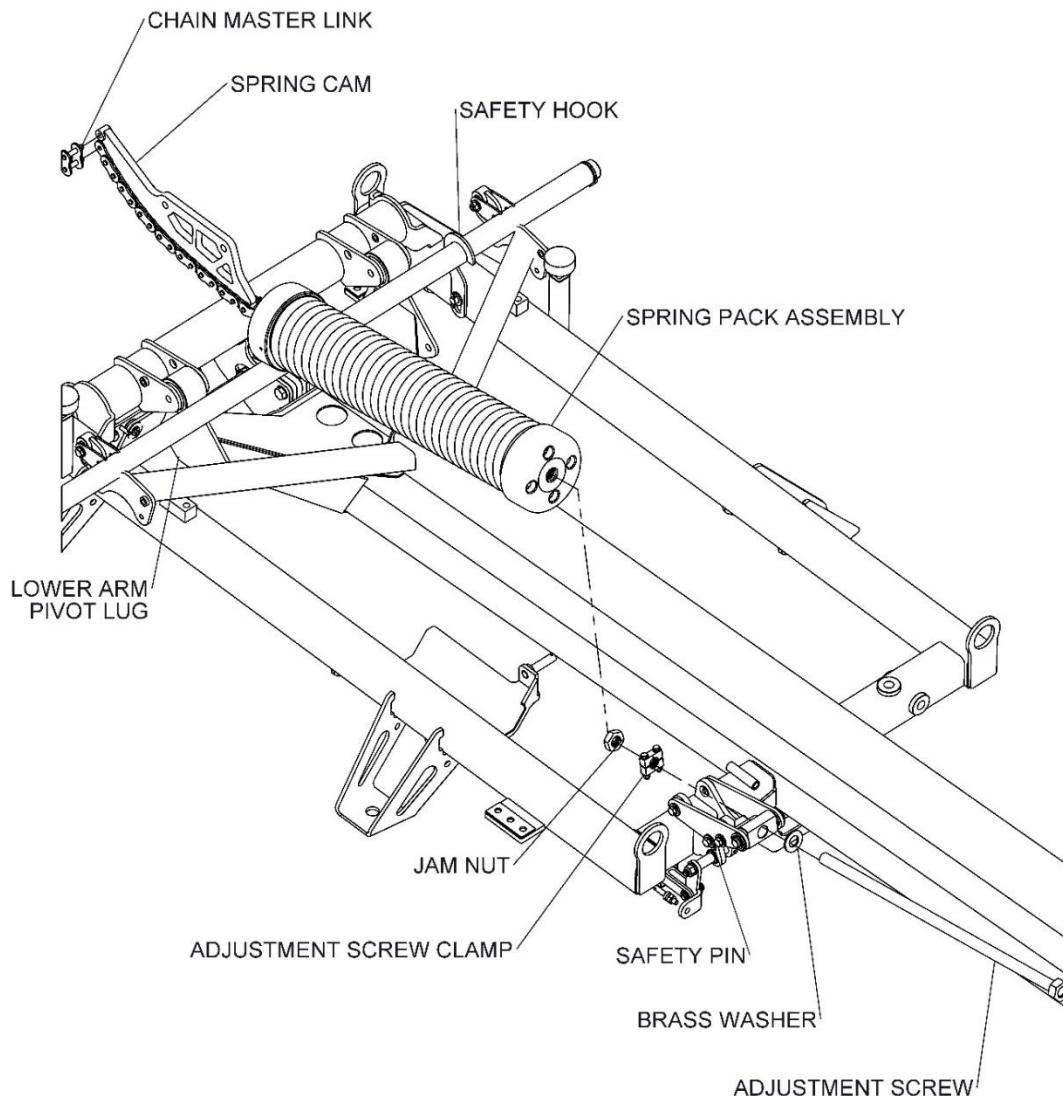

Figure 7-7: Spring Pack Replacement
3. Remove tension on the spring by loosening the jam nut from the spring pack assembly and turning the tension screw counter-clockwise. Loosen the tension screw until the spring tension is completely removed. See Figure 7-7.